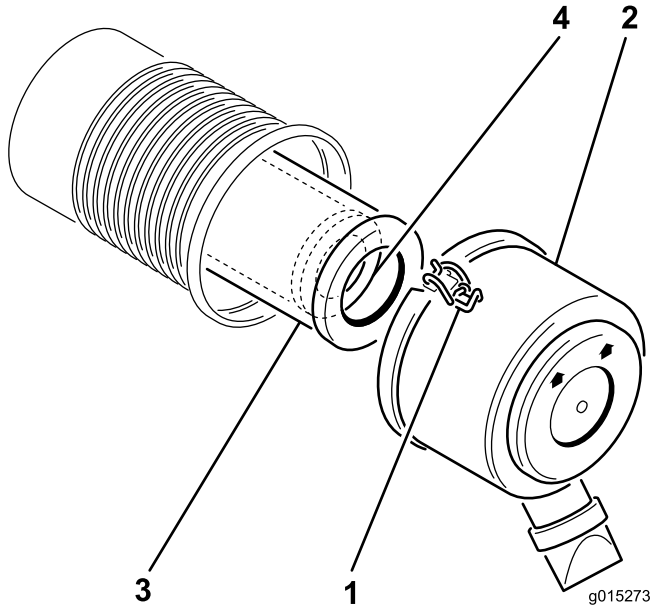

Figure 19
1. Release the latches securing the air cleaner cover to the air cleaner body. Separate the cover of the air cleaner from the body of the unit. Clean the inside of the air cleaner cover (Figure 19).